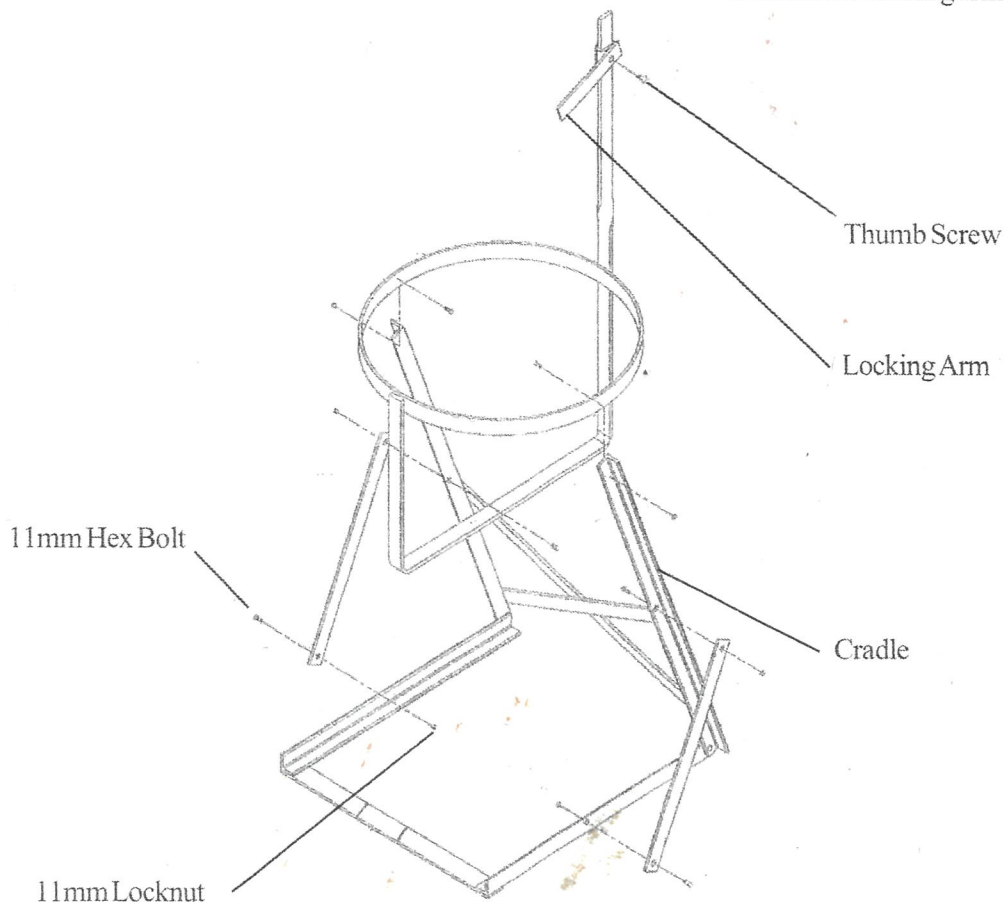

Figure 1
1. Assemble cradle with 11mm hex bolts and locknuts as shown in Figure 1.